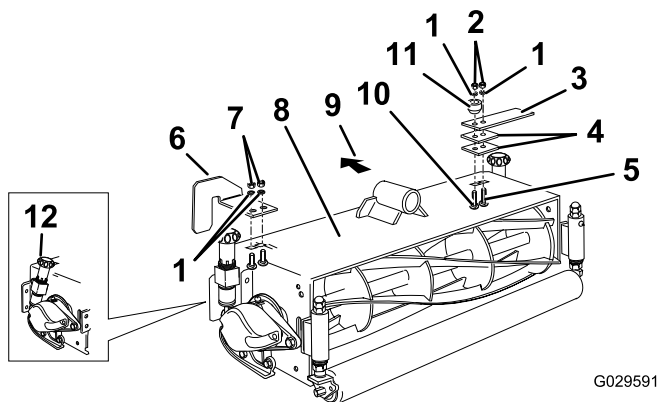

Figure 3
6. For 254 mm (10 inch) cutting units, fit the bump stop, 2 roller-box plates, and the roller plate to cutting units 1 and 5 (hydraulic-motor end) using 1 carriage bolt (M10 x 55 mm), 1 hex-head bolt (M10 x 90 mm), 2 locknuts (M10), and 2 washers (M10); refer to Figure 3.